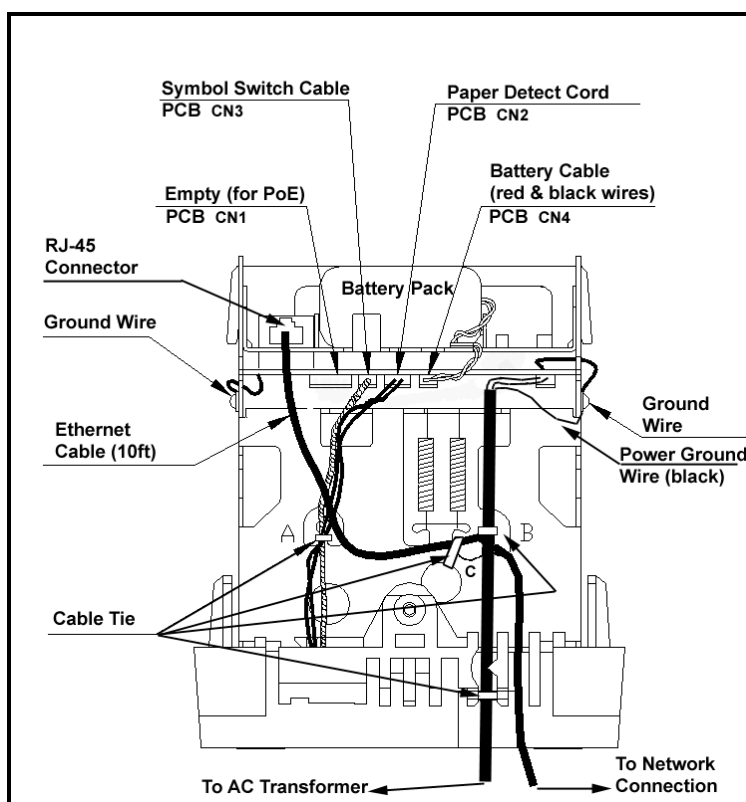

Figure 2-8. Rear View Showing Cable/Connector Location.
Step 10. With the FPR battery pack in the holder alongside the network RJ-45 connector, plug in the FPR battery cable (the connector with the black and red wires) into the open brown connector (see *Figure 2-8*) located just under the battery pack on the PCB at CN4.